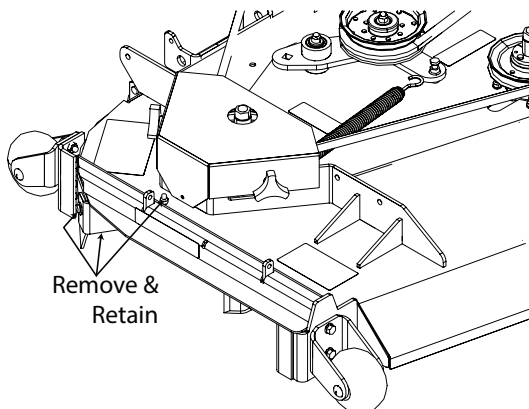

Figure 3-2. Removing the Turbo Baffle
5. Remove the turbo baffle from the cutter deck. See Figure 3-2.